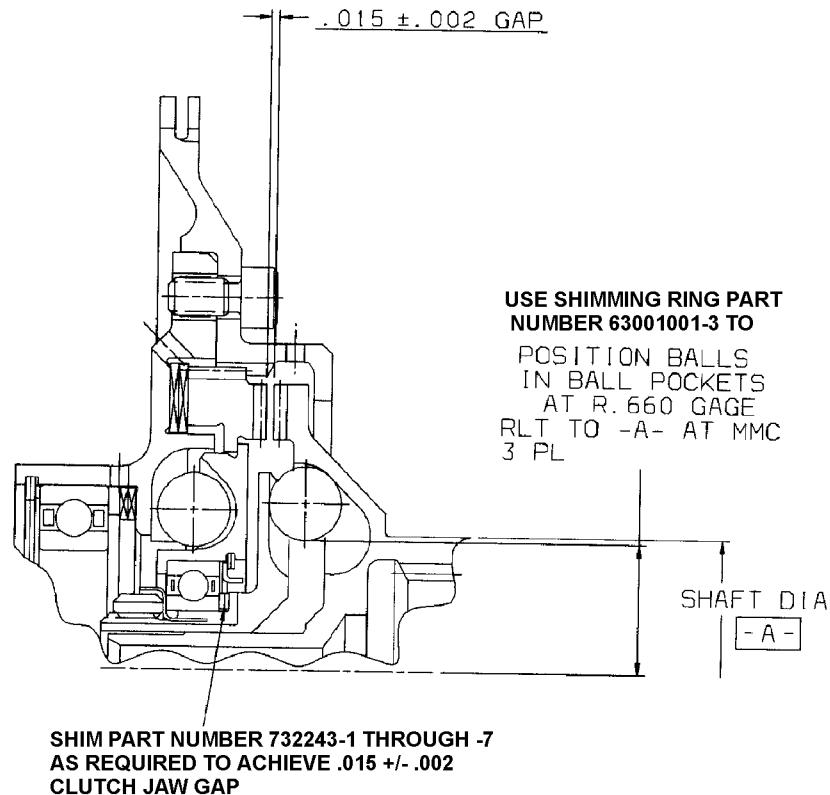
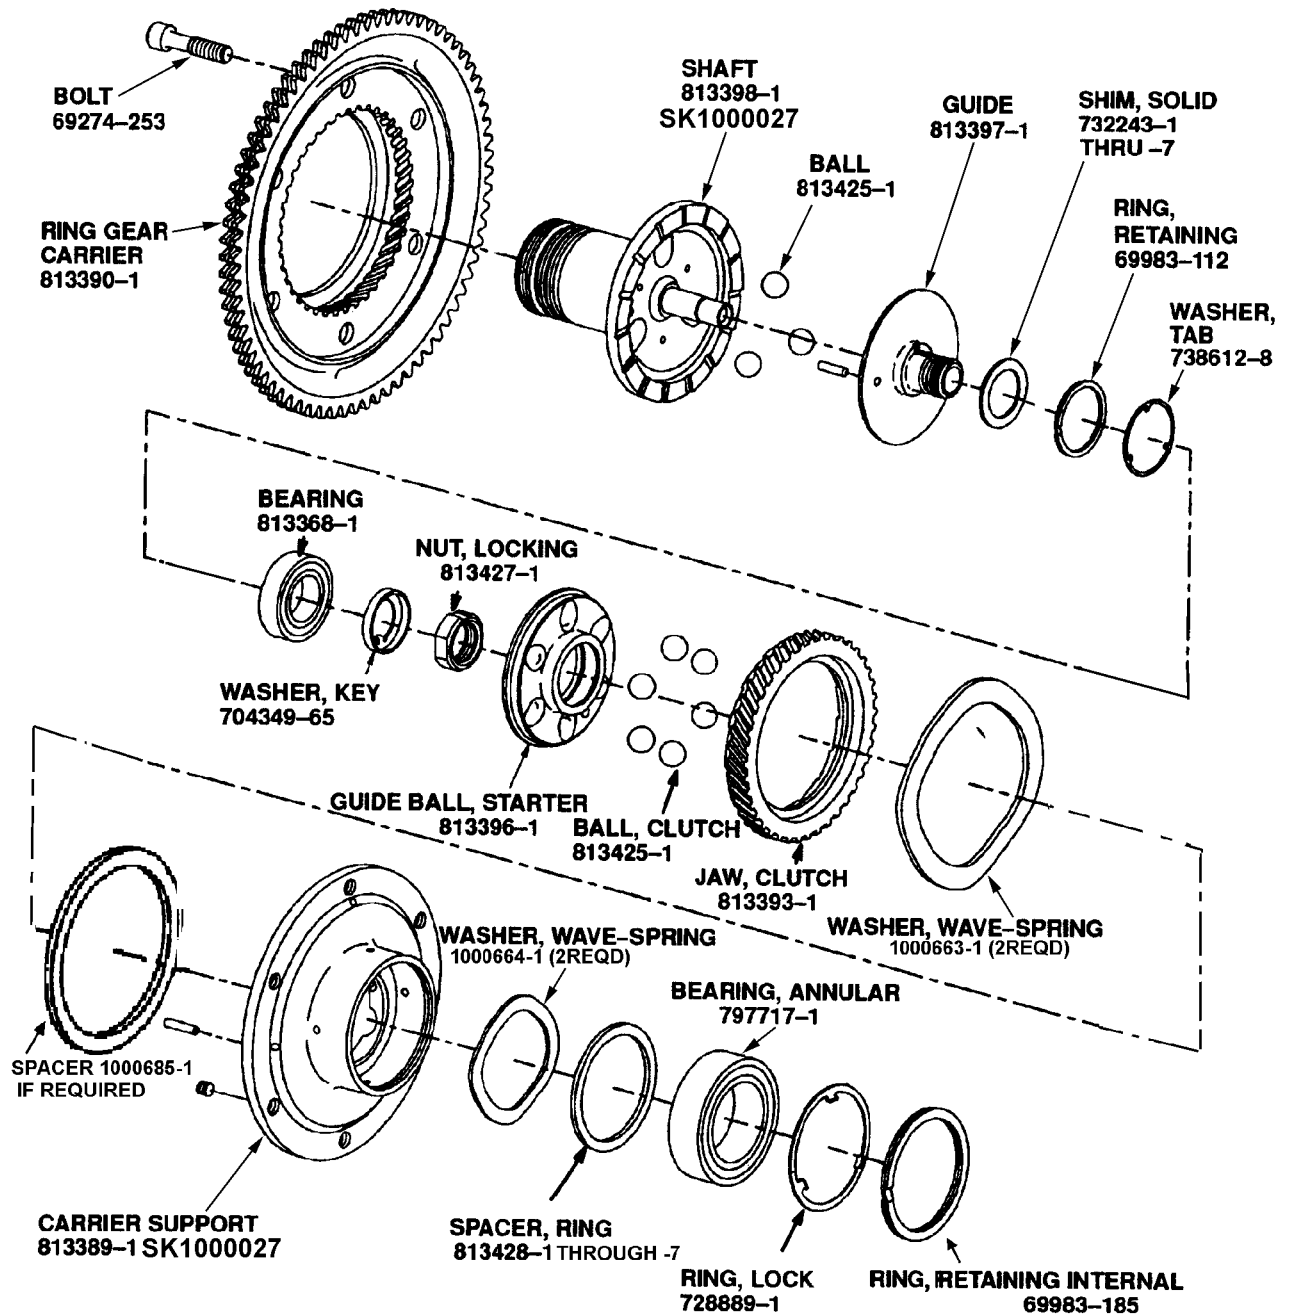

Figure 6. Jaw Shimming
Figure 7. Synchronous Engagement Clutch Assembly
- (2) Assemble the clutch using the CMM assembly procedure except shim the clutch jaw as follows:
- (a) Use the instructions in the CMM Assembly section to assemble the clutch except shim the clutch jaw gap to 0.015 ± 0.002 inch as shown in **Figure 6** and install the new wave springs part number 1000663-1 (2 required) and PN 1000664-1 (2 required) as shown in **Figure 7**.